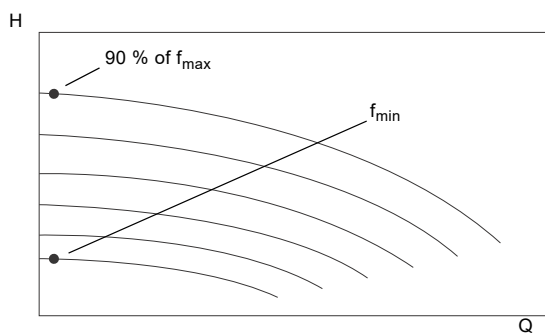

Fig. 115 QH curve for variable speed pump for choosing low flow operating points
3. Click on the pump curve to set the duty point as close to f_{min} , and enter Q to 0.1 as Operating point. See fig. 115
5. Click on the pump curve to set the duty point as close to 90 % speed and enter Q to 0.1 as Operating point. See fig. 115.